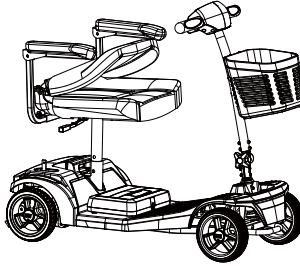

Figure 10: Folded Backrest
2. Stand behind the seat and fold the backrest down(see Figure 10).